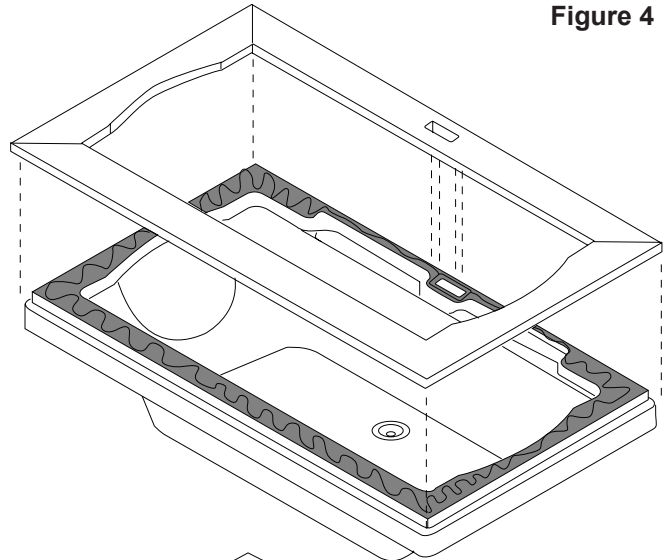

Figure 5
- ⑥ Lower frame onto tub, then verify control panel Cutout(s) are aligned (Figure 5).